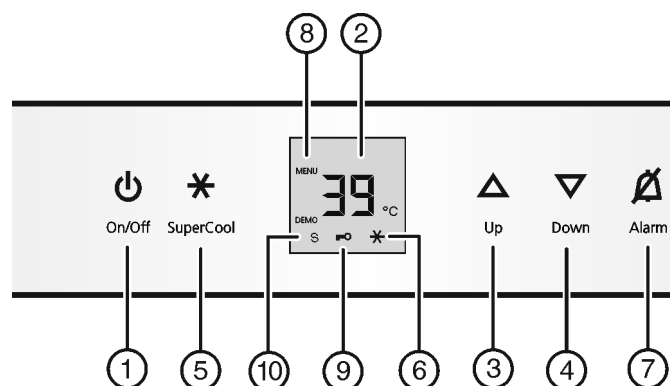

Fig. 2
- ▶ Press On/Off button Fig. 2 (1).
- ▶ Activate setting mode: Press SuperCool button Fig. 2 (5) for about 5 seconds.
- ▷ The SuperCool button Fig. 2 (5) will flash.
- ▶ Using Up button *Fig. 2 (3)*/ Down button *Fig. 2 (4)* select °.
- ▶ To confirm: Briefly press SuperCool button *Fig. 2 (5)*.
- ▶ Using Up button *Fig. 2 (3)*/ Down button *Fig. 2 (4)* select °F or °C.
- ▶ To exit setting mode: Press On/Off button *Fig. 2 (1)*.
- ▶ Select setting mode: Press and hold the SuperCool button *Fig. 2 (5)* for approx. 5 seconds.
- ▷ The Menu symbol *Fig. 2 (8)* lights up.
- ▶ Using the Up *Fig. 2 (3)* or Down button *Fig. 2 (4)*, select **c**.
- ▶ Press the SuperCool button *Fig. 2 (5)* briefly to confirm.
- ▶ To switch on the child proof lock, press the SuperCool button *Fig. 2 (5)* briefly.
- ▷ The Child safety symbol *Fig. 2 (9)* lights up. **c** flashes on the display.
- ▶ To switch the child proof lock off, press the SuperCool button *Fig. 2 (5)* briefly.
- ▷ The Child safety symbol *Fig. 2 (9)* goes out. **c** flashes on the display.
- ▶ To deactivate setting mode: Press the On/Off button *Fig. 2 (1)*.
- ▶ Press Alarm button *Fig. 2 (7)*.
- ▶ To activate setting mode: Press and hold the SuperCool button *Fig. 2 (5)* for approx. 5 s.
- ▶ To access the Sabbath mode function: Briefly press the SuperCool button *Fig. 2 (5)*.
- ▶ **To turn on** Sabbath mode, briefly press the SuperCool button *Fig. 2 (5)*.
- ▶ **To turn off** Sabbath mode, briefly press the SuperCool button *Fig. 2 (5)*.
- ▷ The Sabbath Mode symbol *Fig. 2 (10)* appears on the temperature display as long as Sabbath Mode is active.